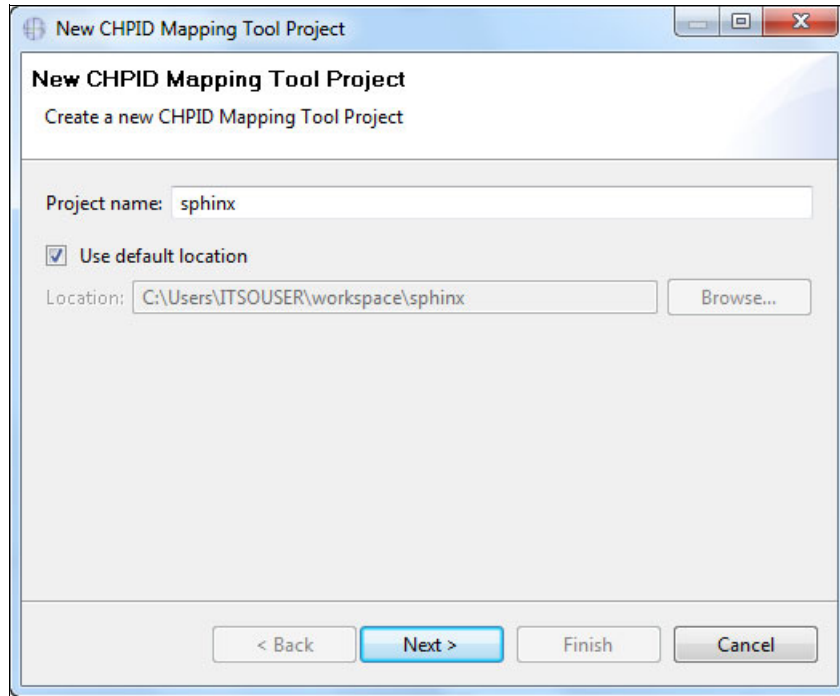

Figure 6-63 CMT - New CHPID Mapping Tool Project name
3. The New CHPID Mapping Tool Project window opens (Figure 6-63). Use this window to specify a project name and then click **Next**.